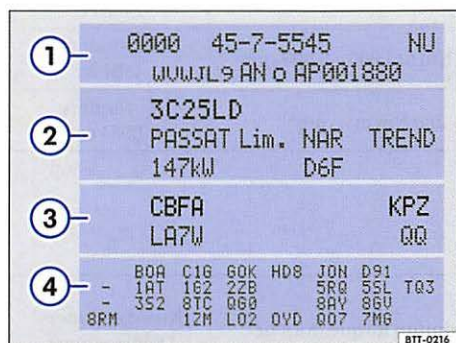

Fig. 10 Vehicle identification label: shown in the example with engine classification code BLF ③.
The vehicle identification label ⇒ fig. 10 is affixed in the area of the spare wheel well in the luggage compartment and contains the following information: ▶
- ① Vehicle identification number (VIN)
- ② Vehicle type, engine rating, transmission
- ③ Engine and transmission classification codes, paint number, interior. In the example, the engine classification code is "CBFA" ⇒ page 31, fig. 10.
- ④ Optional equipment, part numbers